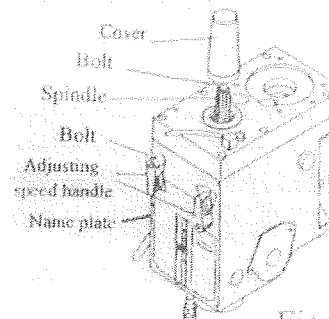

Fig.7
4、 Adjust the spindle speed(see fig.7)
Cloth to clear all parts of drill chuck or drill, and then put it in the end of spindle. For the drill chuck you should use bolt to pull it, in order to take away the cover, put the bolt into the spindle hole, rotate and fasten the bolt, let it pull the drill chuck, then close the cover. (See figure 7) rotate the cover of drill chuck make the jaw has enough patulous, then put the